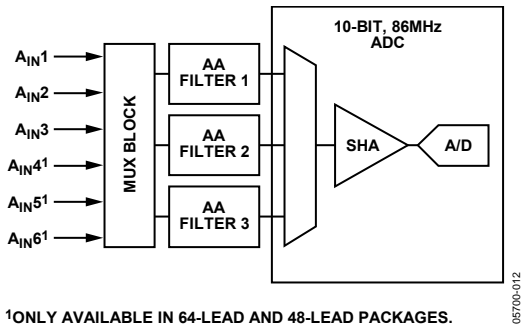
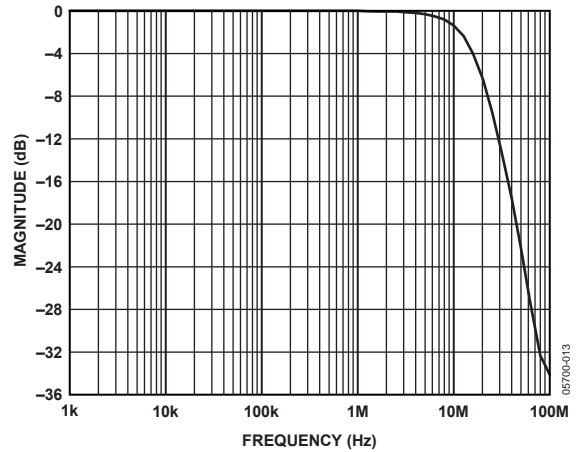
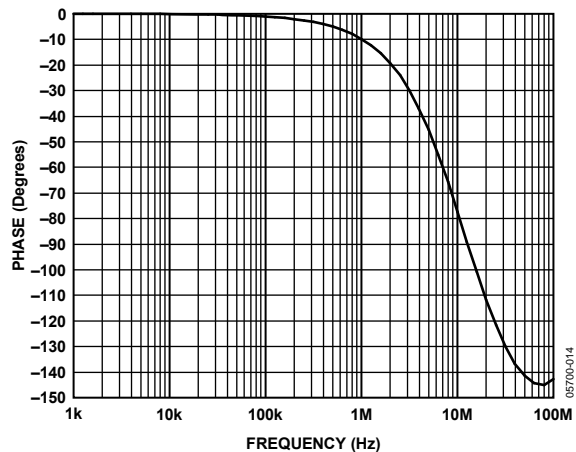

Figure 17. Antialias Filter Configuration
Figure 18. Antialiasing Filter Magnitude Response
Figure 19. Antialiasing Filter Phase Response
The **ADV7180** has optional on-chip antialiasing (AA) filters on each of the three channels that are multiplexed to the ADC (see Figure 17). The filters are designed for standard definition video up to 10 MHz bandwidth. Figure 18 and Figure 19 show the filter magnitude and phase characteristics.